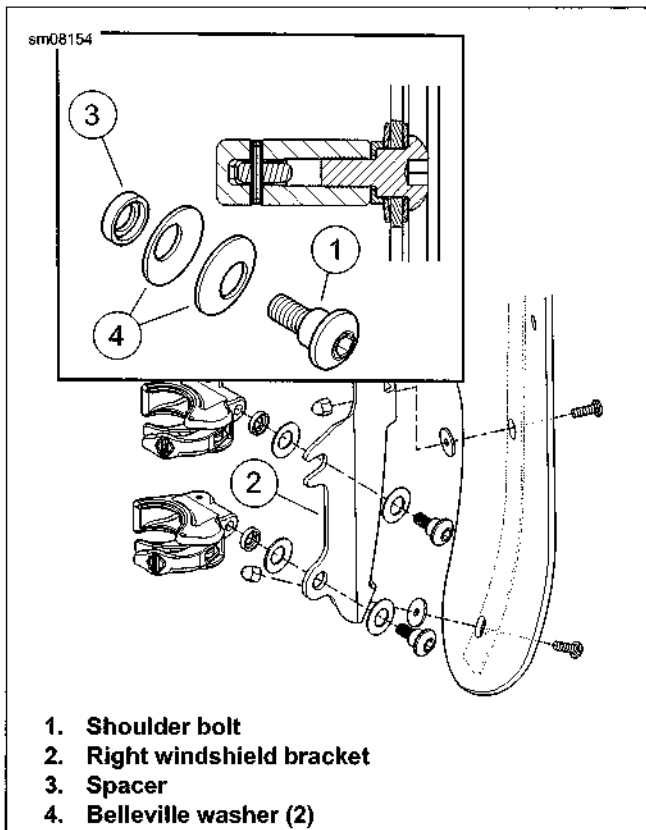

Figure 2-166. Windshield Mounting Clamp
See Figure 2-166. Remove the shoulder bolts (1), the Belleville washers (4), windshield, spacers (3) and clamps.
- See Figure 2-166. Install shoulder bolt (1) through a Belleville washer (4), windshield bracket (2), Belleville washer, spacer (3) and into the clamp.